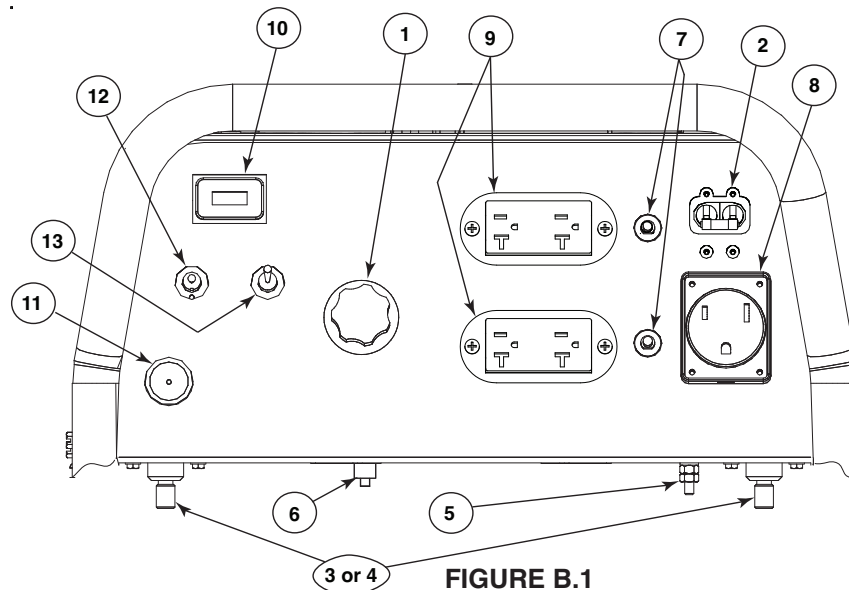

FIGURE B.1
CONTROLS AND SETTINGS All welder/generator controls are located on the Output Control Panel. Gasoline engine controls are mounted on the engine. See Figure B.1 and the figures in engine operation section.
See Figure B.1 for the location of the following features:
1. Remove the flange nuts from the weld output terminals and place the work and electrode welding cables over the terminals. See Figure B.1 and B.1a. Replace and tighten the flange nuts securely. Be sure the connections are tight.